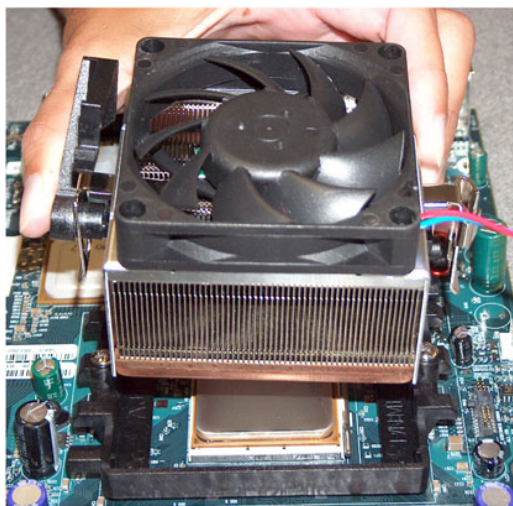

Figure 14. Heatsink Centered Over Processor
15. Center the heatsink over the processor. (See Figure 14 on page 24.)